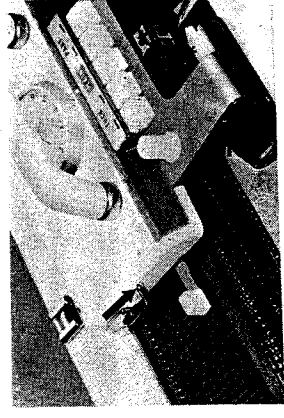

Fig. 17
- k. Snap the row counter tripper into position. The tripper located on the left side of the carriage. To set the row counter out of operation, turn it toward you. (See Fig. 17)